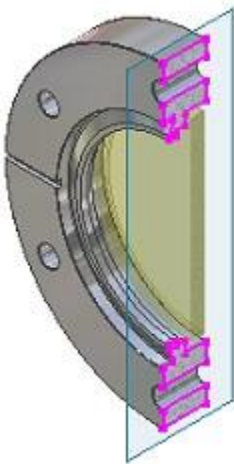

Figure 6: Sketch Exposed by Section View.
5. Right-click and select Flip Section again to return to the original half. Right-click and select Done. You now have a much better view of the sketch (Figure 6).